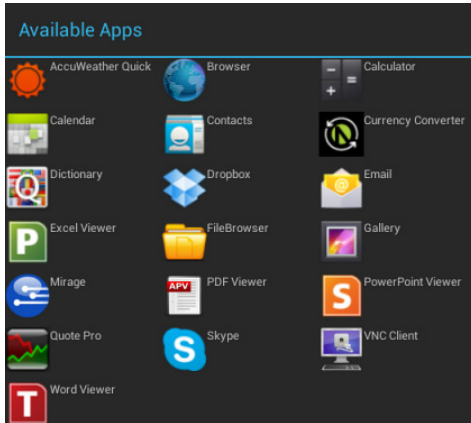

FIG. 142 Available Apps window,
- **Launch Applications:** Press to invoke the *Available Apps* window, which provides shortcuts to all Apps loaded on the panel (FIG. 142):.